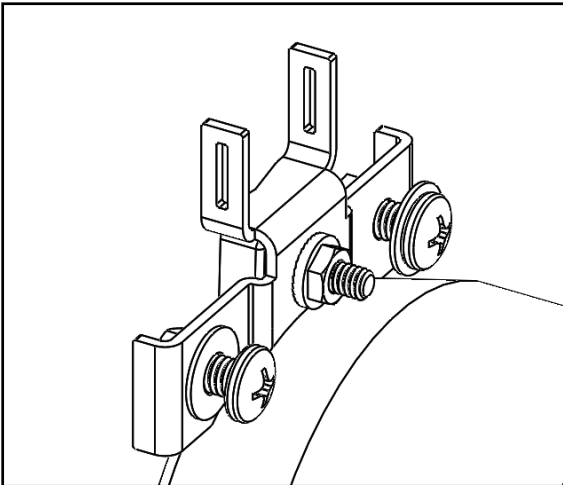

Figure 11
- (1) Attach the pipe mount to the S5000 as outlined in the pipe mount instructions section (reference PN 10180895).
- (2) Once attached, loosely install the two 1/2" Phillips pan head screws and locknuts given in the sunshield kit on the top pipe mount tabs (where the sunshield will be attached) as shown below in Figure 11.